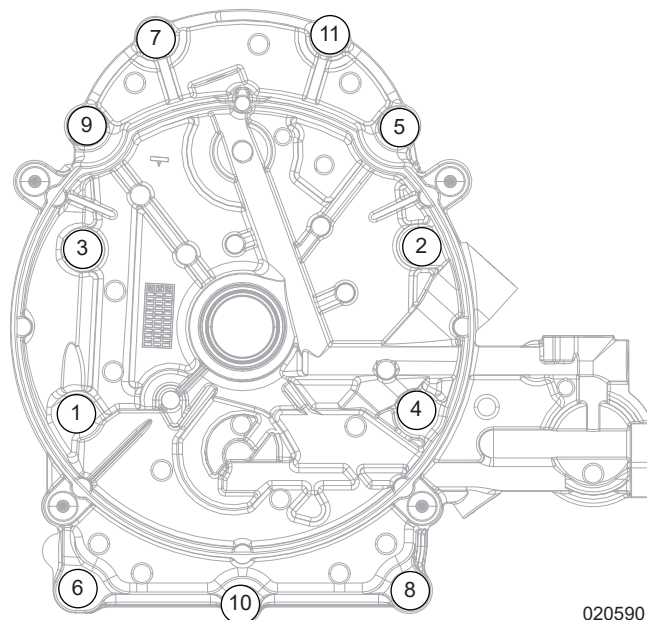

Figure 12-2. Gear Cover Torque Sequence
2. See Figure 12-2. Verify gear cover torque using the correct sequence shown. Final torque on gear cover is 32.4–39.6 ft-lb (43.9–53.7) Nm.